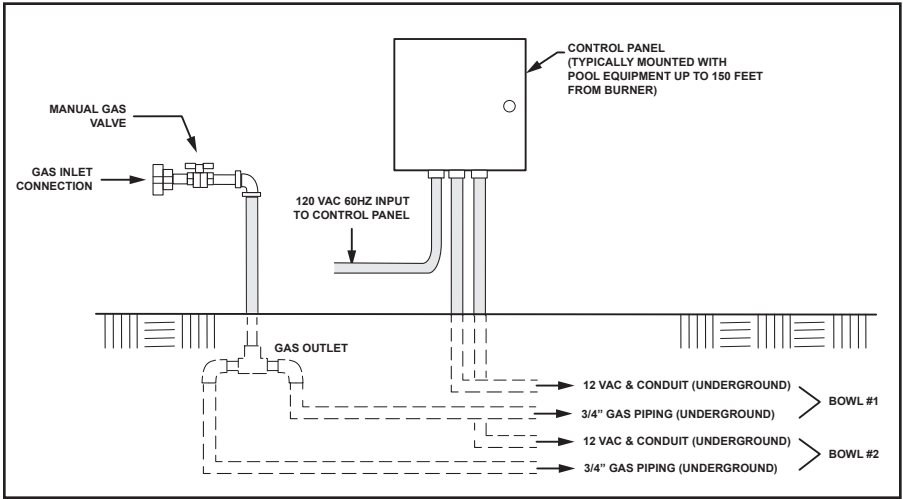
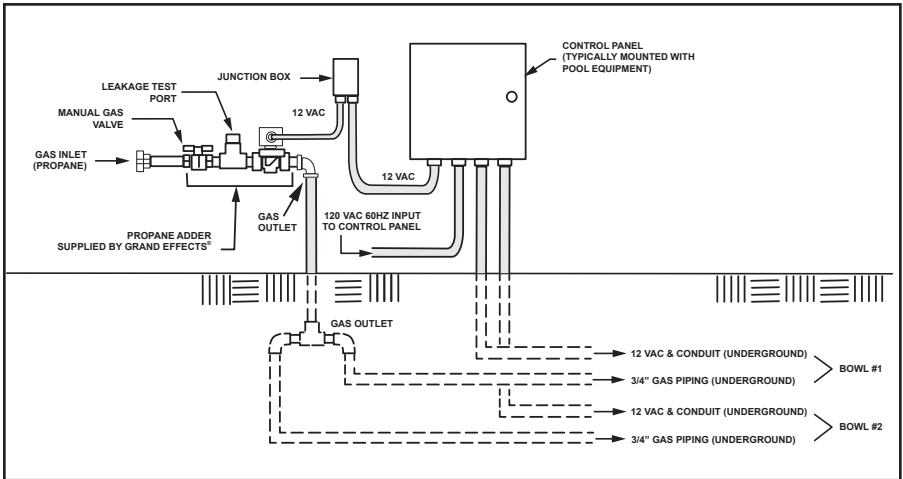

Figure 3. Natural Gas
Figure 4. Propane Gas
1. Install the control panel and gas piping as shown in Figure 3: Natural Gas or Figure 4: Propane Gas.
Note: Propane piping is different than natural gas piping (shown in Figure 3 and Figure 4).
2. The gas piping must be installed underground between the control panel and each fire or water bowl, as shown in Figures 3 and 4.